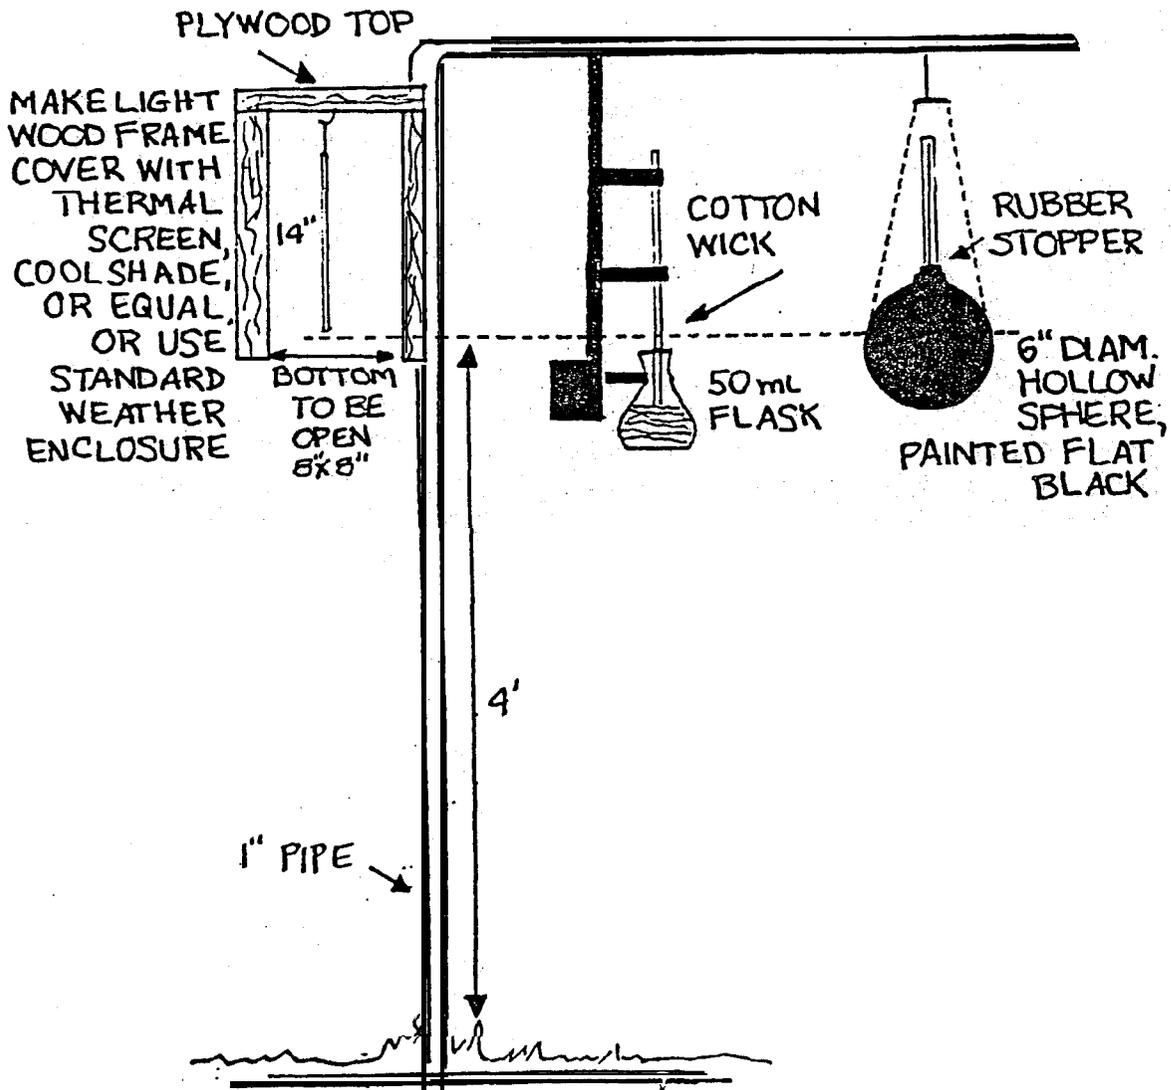

Figure 1. --Wet Bulb Globe Temperature Instrument Setup.
1. Figure 1 below depicts the proper instrument station. Although the thermo screen shelter is not shown in the drawing, it should be in the immediate vicinity. The shelter is used to house the dry bulb thermometer and spare instruments. Certain items, such as clamps, stoppers and flasks, have not been provided addressees. These items are standard and may be obtained locally.